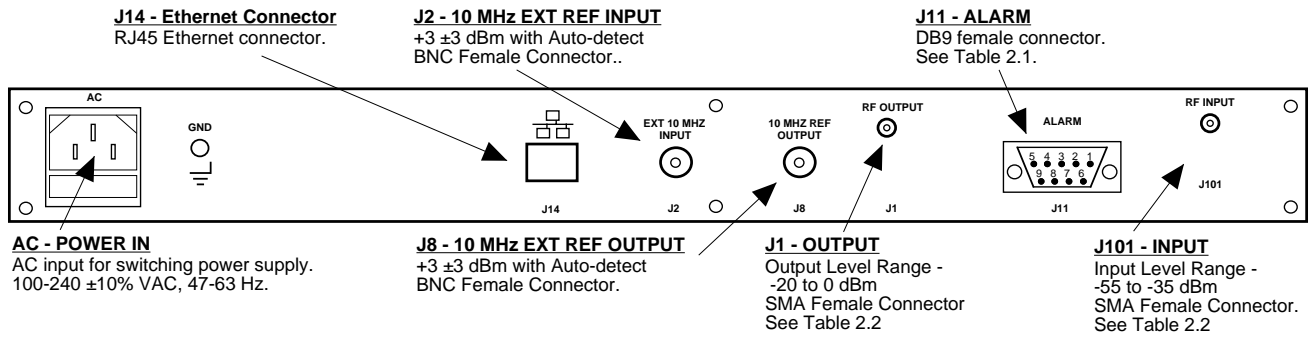

FIGURE 2.1 3116-140-4110 Rear Panel I/O's
Figure 2.1 shows the input and output connectors on the rear panel.
1. Connect a -55 dBm to -35 dBm signal to RF IN, J101 (Figure 2.1).